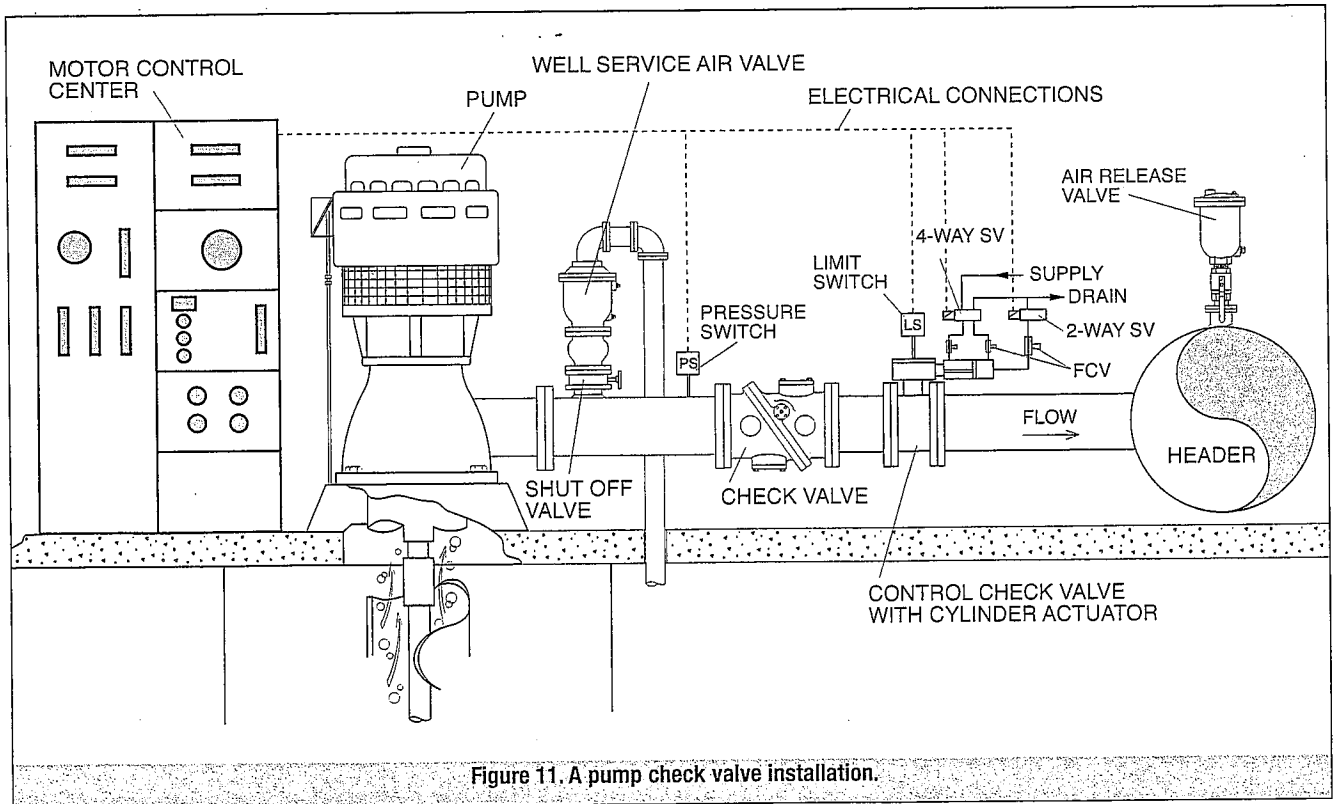

Figure 11. A pump check valve installation.
We learned earlier that negative surge conditions can occur for several seconds, so a backup water or oil system is appropriate. Figure 11 illustrates a typical installation. Hydraulic controls electrically wired into the pump circuit are mounted on the valve. Four-way and two-way solenoid valves (SV) direct the operating medium to the cylinder ports to cycle the valve. The speed of opening and closing is controlled by independently adjustable flow control valves (FCV). Flow control valves are special needle valves with a built-in reverse check valve to allow free flow into the cylinder but controlled flow out of the cylinder.